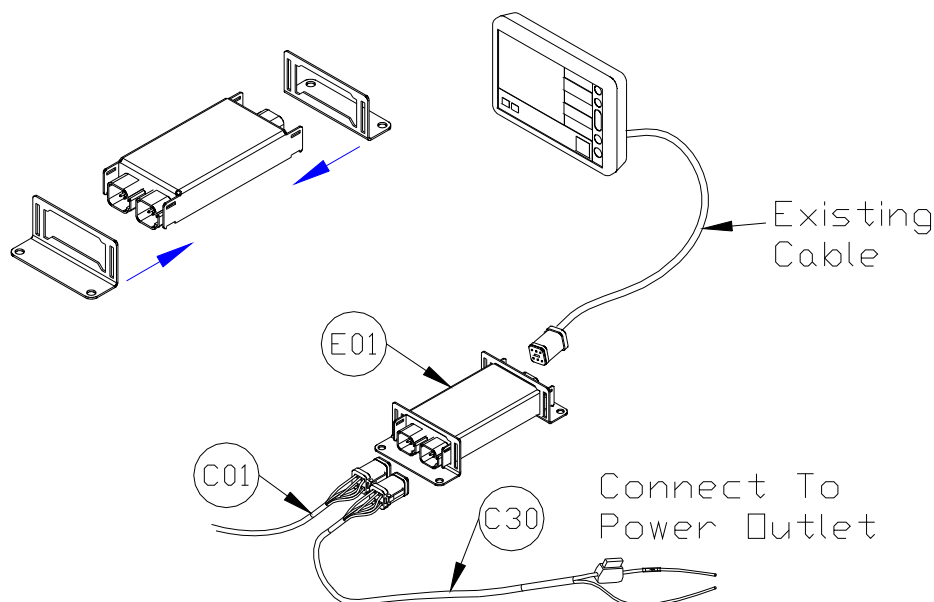

Figure 22: Control Module Mounting (Self Propel Sprayer)
1. Refer to **Figure 1** and **Figure 22**.
Cable C30 is shown in Figure 22 for informational purposes only. The battery cable is ordered separately from this kit and may differ from the diagram above.